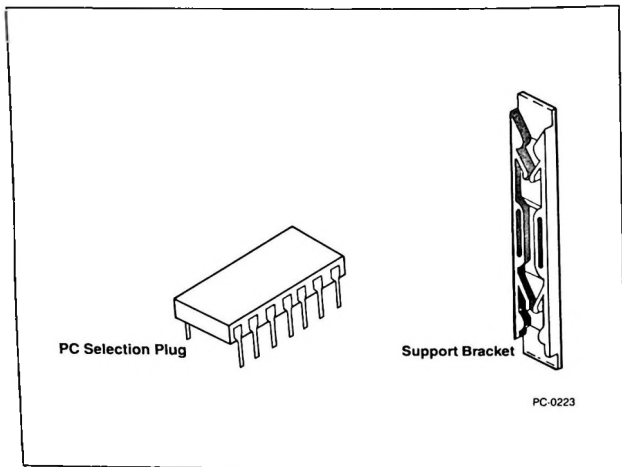

Figure 6-17 *The PC selection plug and support bracket*
- 4** Find the plastic packet containing the PC selection plug and the support bracket supplied with your Above Board. Figure 6-17 shows the plug and the bracket.